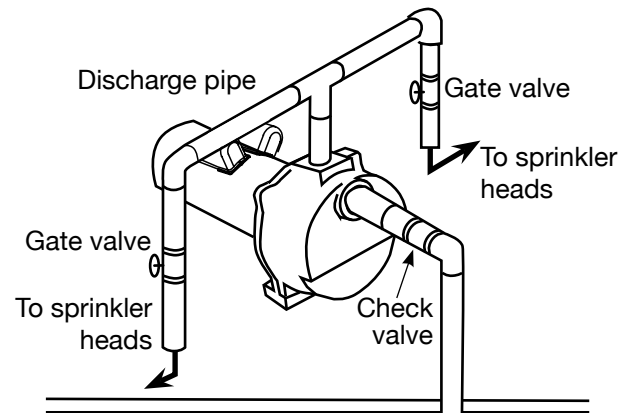

Figure 2
1. Connect suction pipe to drive point (Fig. 2). Keep horizontal pipe run as short as possible. Use Teflon tape on male pipe threads. Multiple well points may be necessary to provide sufficient water to pump.